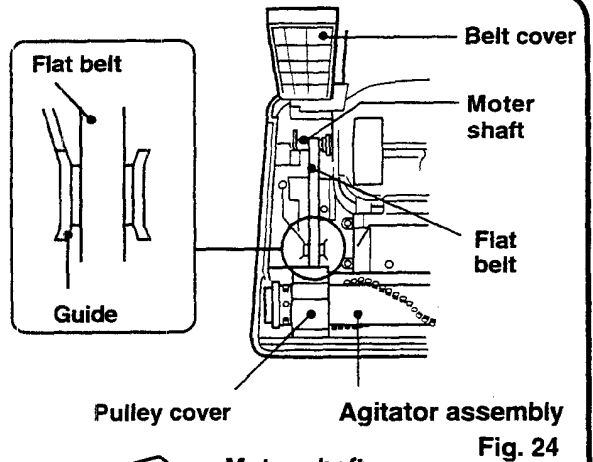

Fig. 24
- 1 After removing the bottom plate, lift up the belt cover and remove the pulley cover to determine if the belt is worn or broken. (Fig. 24)
Be sure to install the new flat belt into the guide properly. (Fig. 24)